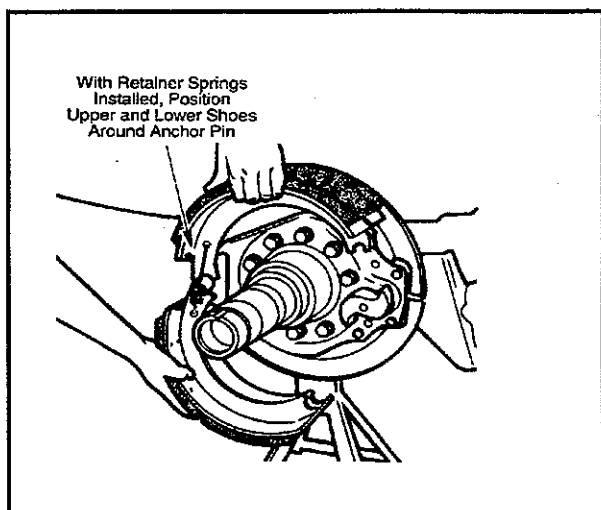

Figure 9—Position Shoes
15. Position upper and lower shoes around anchor pin. (See Figure 9—Position Shoes.)